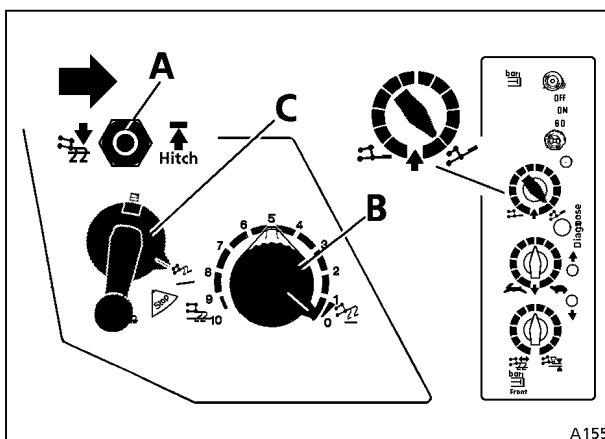

Fig.102
- Unlock system with lever (A).
- Turn dial (B/refer to OPERATION Fig. 102) to position "0".
- Set quick lift lever (C/refer to OPERATION Fig. 102) to "Control".
- Move coupler hook downwards using dial (B/refer to OPERATION Fig. 102).